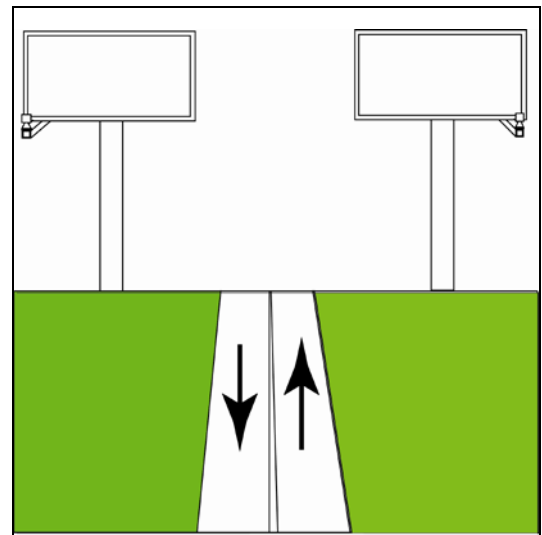

Figure 7: Webcam Installation Locations
- so the camera does not block the view of the display. Refer to **Figure 7**.